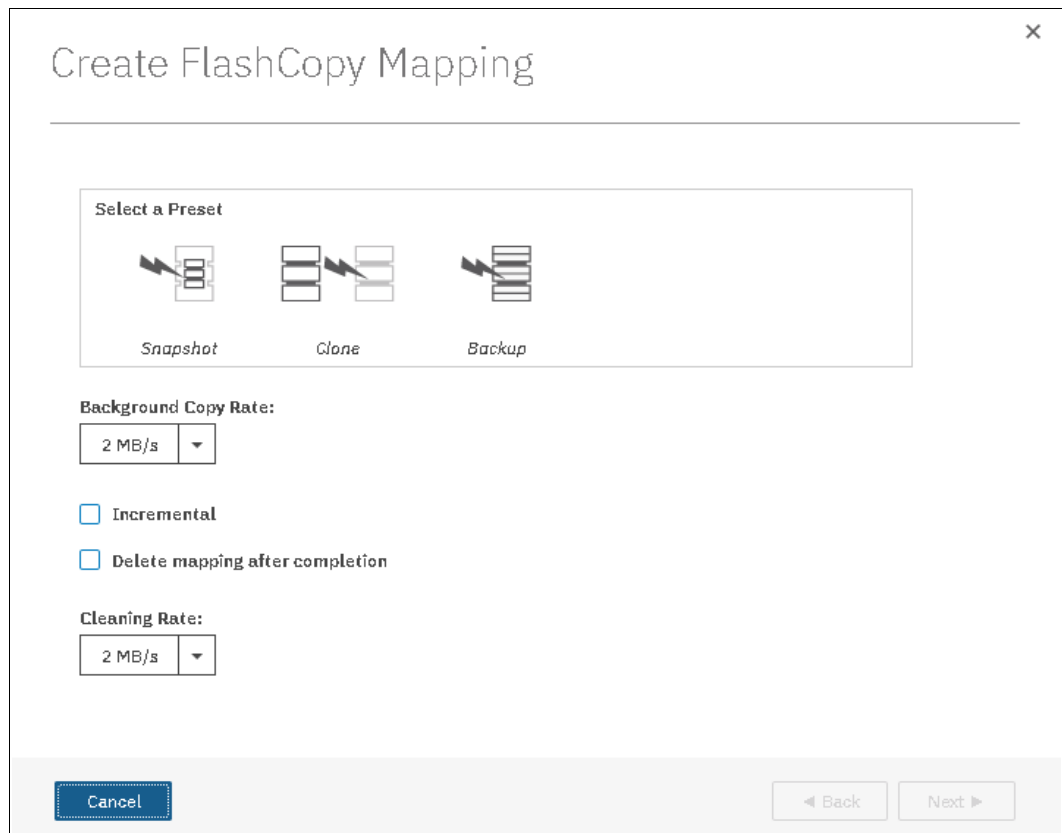

Figure 10-22 Create FlashCopy Mapping window
- In the Create FlashCopy Mapping window (see Figure 10-22), you must select one FlashCopy preset where advanced options can be configured as shown.